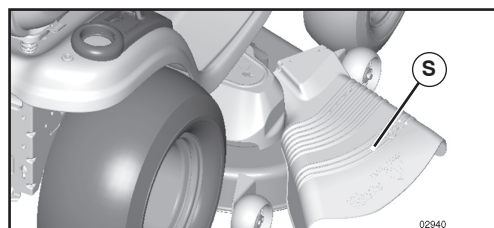

Fig. 10
TO OPERATE MOWER (See Fig. 10)
CAUTION: Do not operate the mower without either the entire grass catcher, on mowers so equipped, or the deflector shield (S) in place (See Fig. 10).